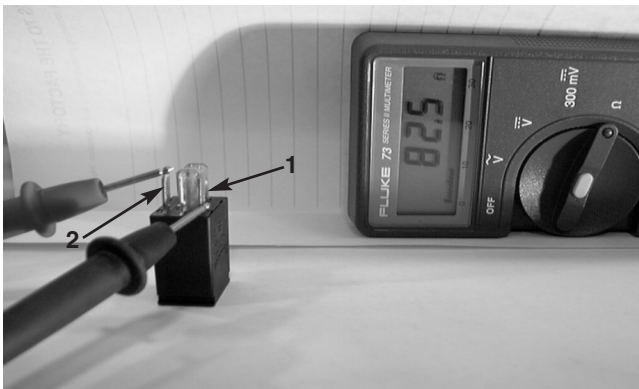

FIGURE 28.
–Depending on the temperature, the ohms reading should be approximately 82 ohms. See figure 28.